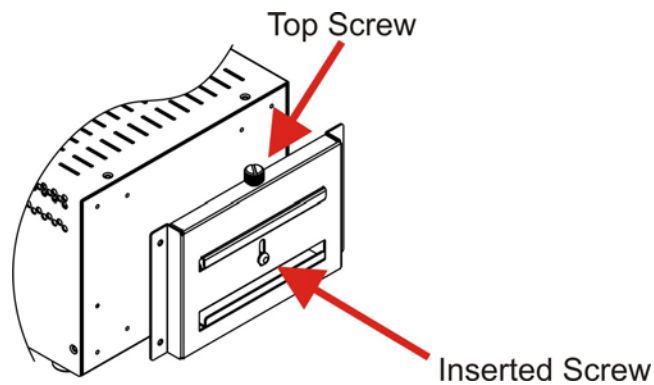

Figure 4-9: Screw Locations
Step 2: Make sure the inserted screw in the center of the bracket is at the lowest position of the elongated hole (**Figure 4-9**).